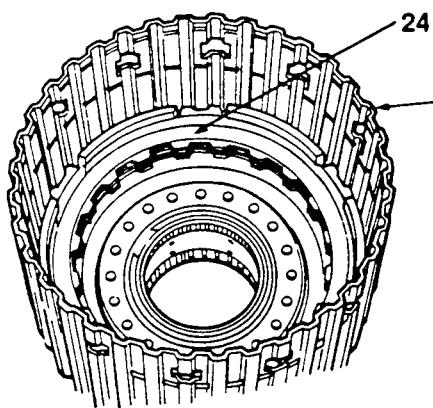

**Figure 158. Spring Retainer Assembly Installation**
**Spring Retainer Assembly (Figure 158)**
3. Push down the retainer with a spring compressor and install the snap ring (figure 158).